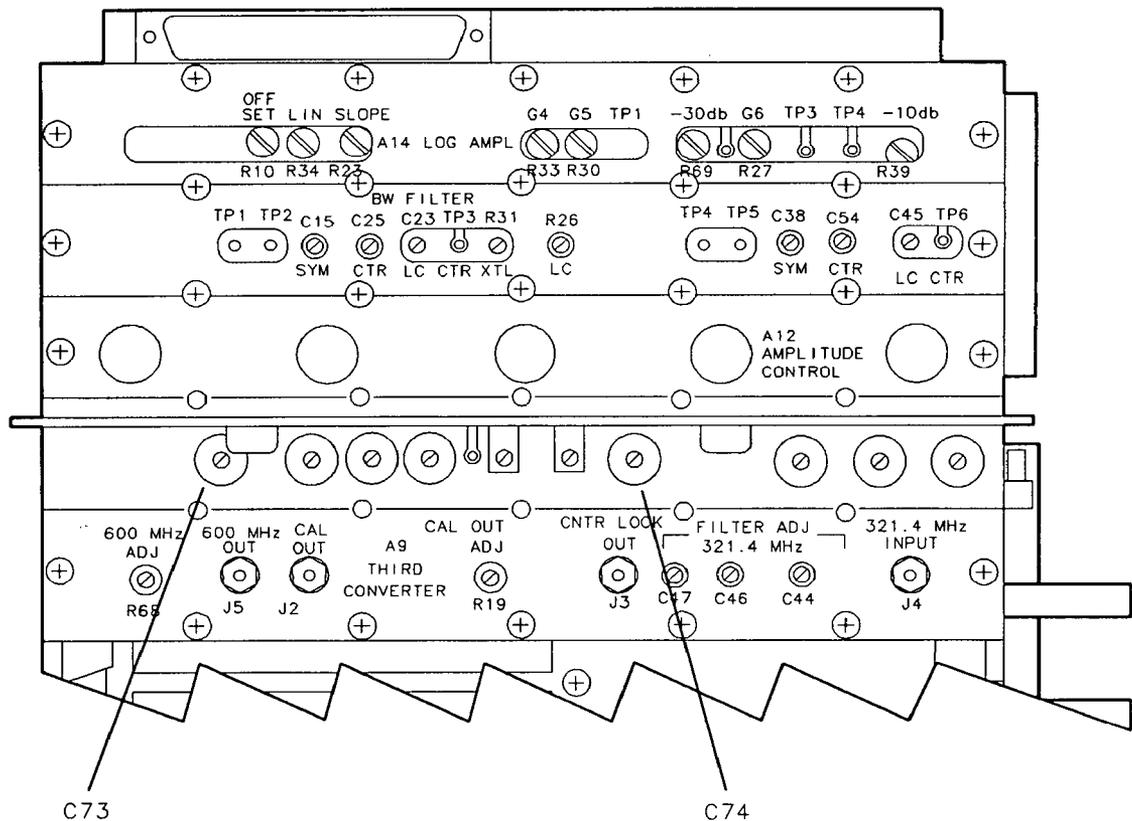

Figure 2-11. LC Dip Location
19. To access the LC dip capacitors C73 and C74, remove the covers from the A11 and A13 assemblies. See Figure 2-11.